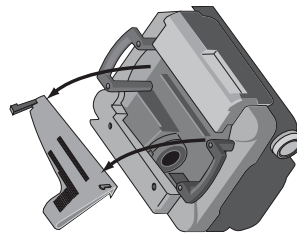

FIG. 3
6. Take the dust shroud out of the unit (Fig. 3) and set it aside.